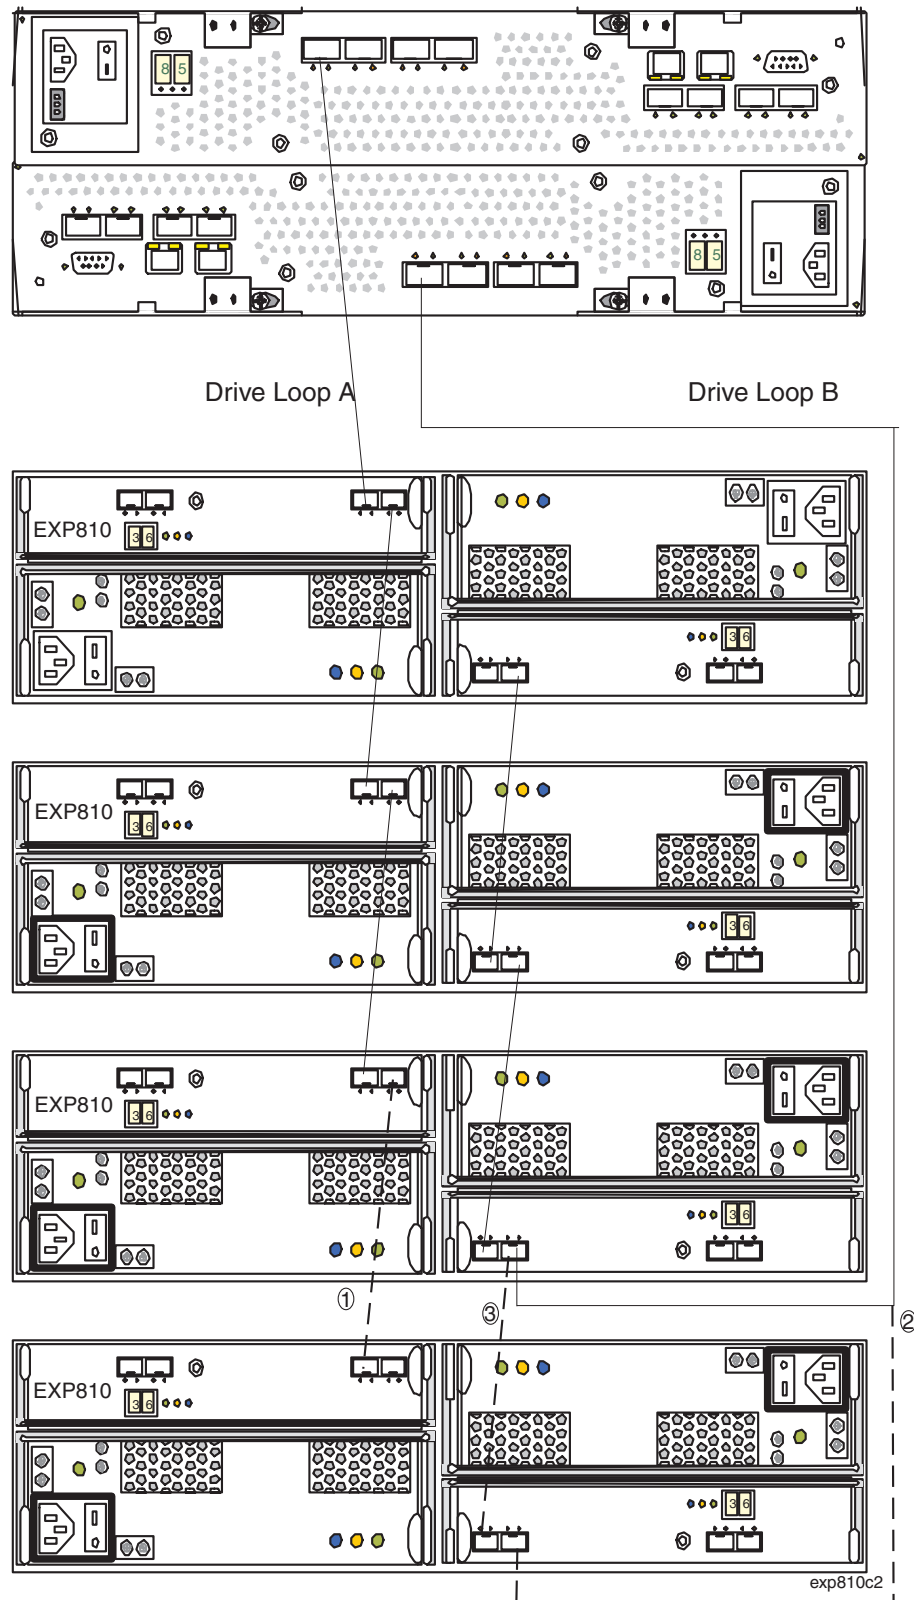

Figure 39. Cabling the EXP810 to an existing and configured drive loop
Figure 39 on page 71 shows an example of a DS4000 storage subsystem configured with redundant drive loop pairs.
The dashed lines in Figure 39 show how to add a new EXP810 to an existing DS4800 configuration with EXP810s. To add the new EXP810 shown in Figure 39, perform the following steps:
4. Make the fibre-channel connection marked 1 in Figure 39 on page 71 (drive loop A). Then verify that it is recognized by the Storage Manager software GUI.
5. Move the existing fibre-channel connection marked 2 in Figure 39 on page 71 from the existing EXP810 enclosure ESM port to the new EXP810 enclosure ESM port.
6. Make the fibre-channel connection marked 3 in Figure 39 on page 71 (drive loop B).